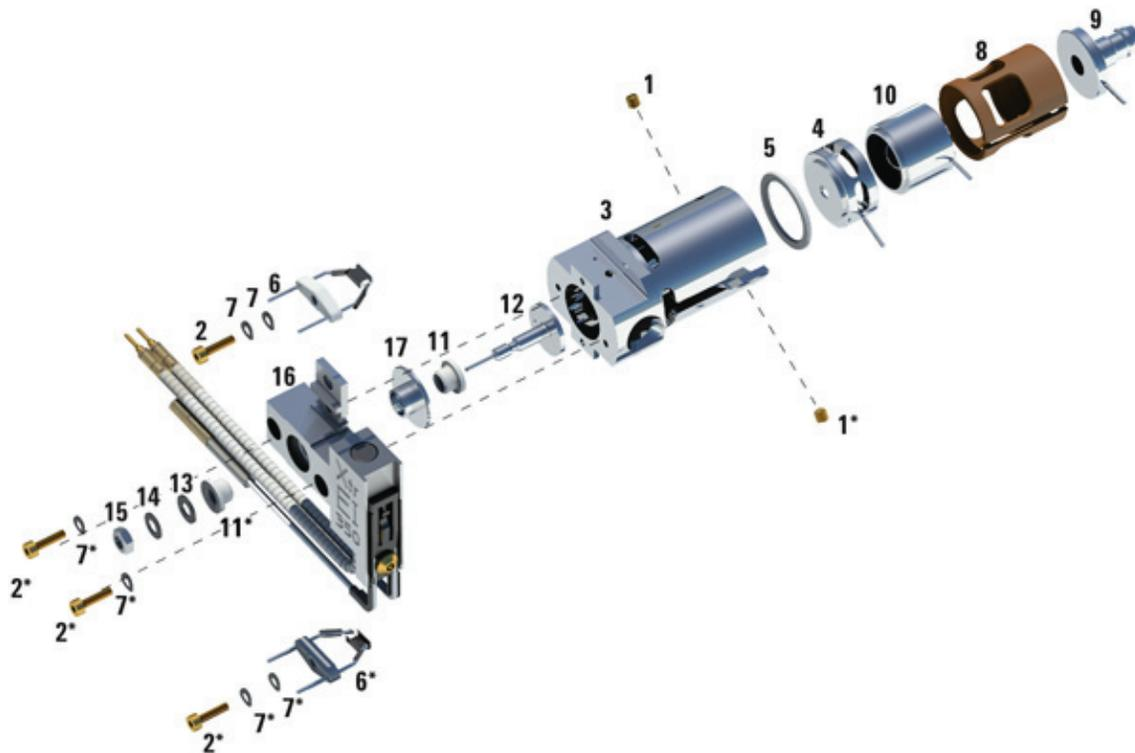

Figure 59. EI XTR or HydroInert source
Table 19 Parts list for EI XTR and HydroInert source (Figure 59 on page 205)
**Table 19** Parts list for EI XTR and HydroInert source (Figure 59 on page 205) (continued)